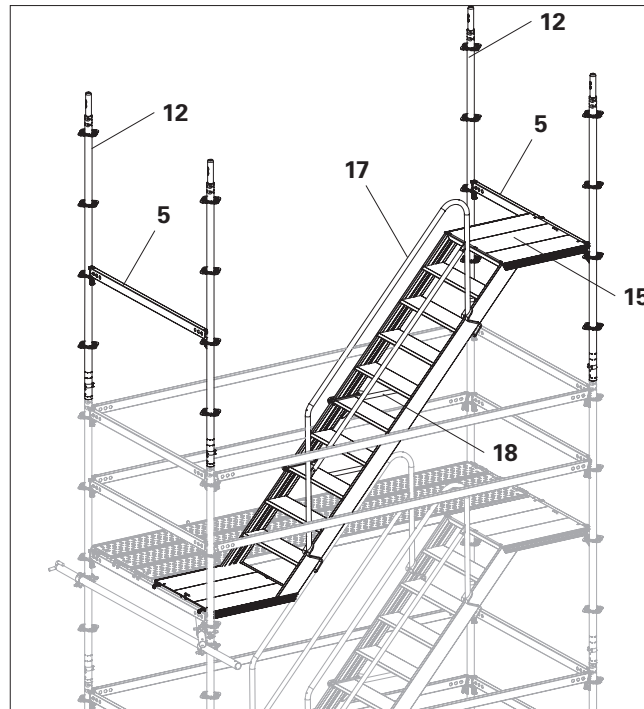

Fig. A5.01
4. Fit Stair Guardrail UAH-2 (**18**) onto the rear side of the staircase (Fig. A5.01)